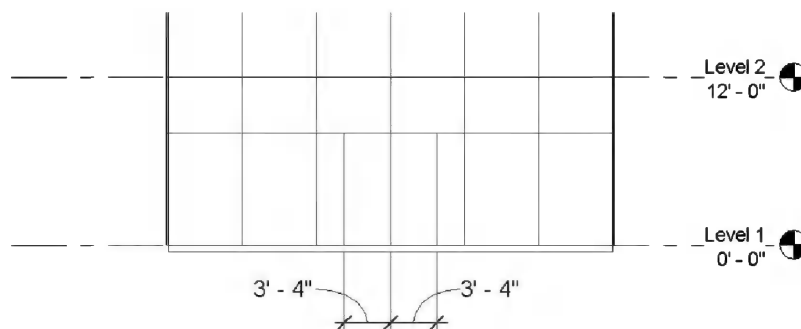

FIGURE 8-5.3 Curtain grid for door location
6. Draw two vertical lines to set up the main entry door location (Figure 8-5.3). *You do not need to draw the dimensions shown.*